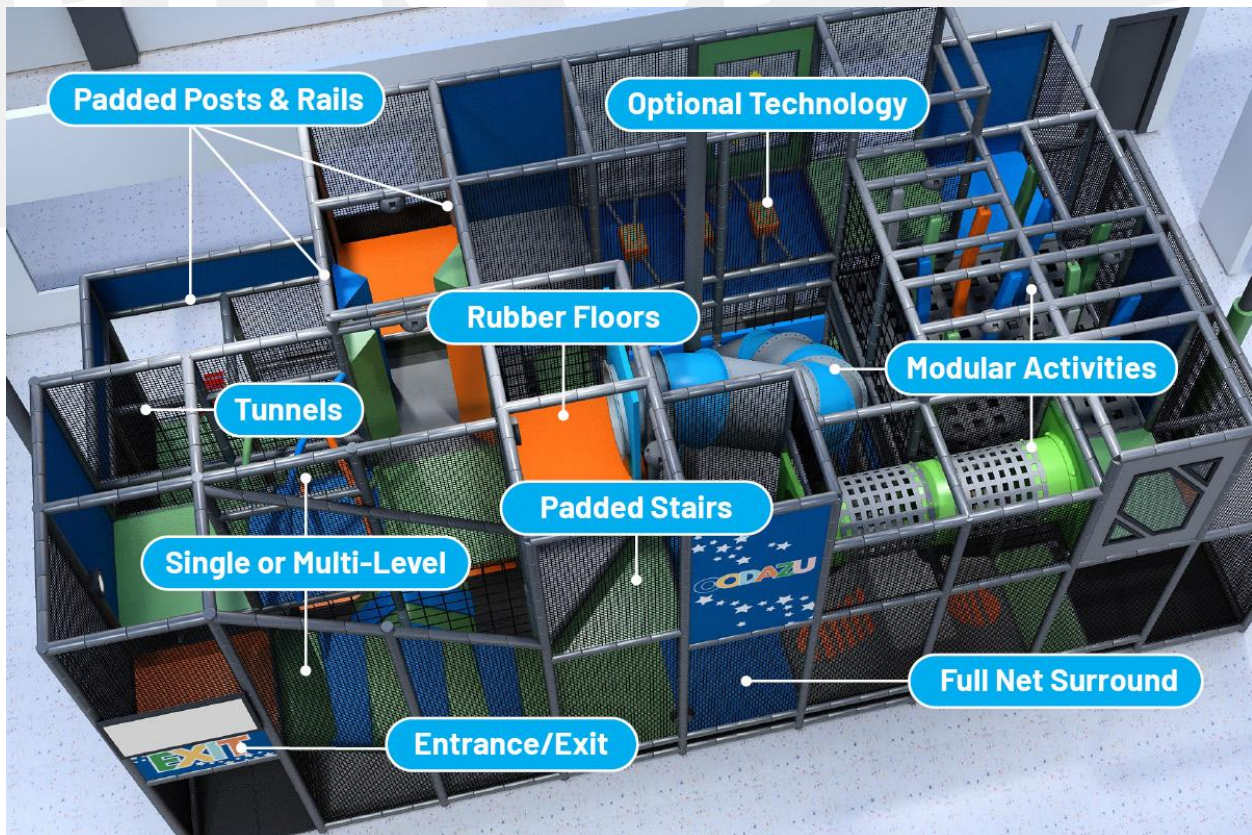

Figure 1
- Patrons must enter and exit the FunScape area through dedicated entrance/exit points. (See page 5, Figure 1)